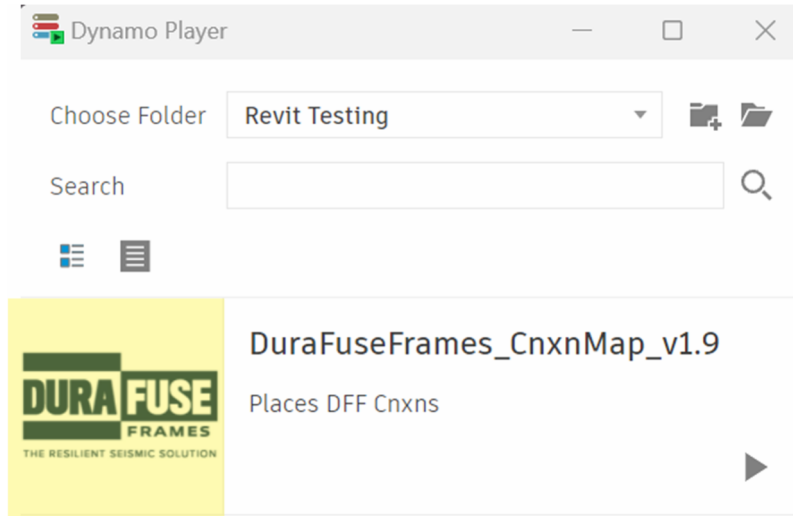

Figure 4-3. DuraFuse Frames Connection Map Tool
3. Once the connection mapping tool has been read in, Dynamo Player will display the tool in the window (see Figure 4-3). Click on the **DuraFuse Frames logo**, next to the DuraFuseFrames\_CnxnMap.dyn file.